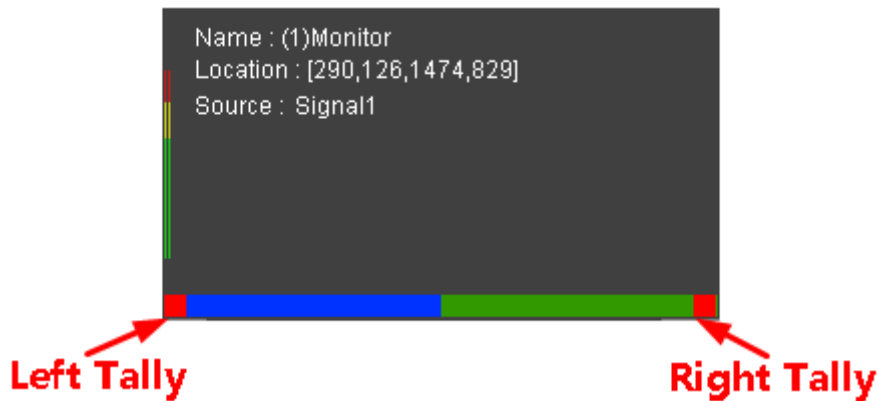

Figure 3.5-56 Tally
- **TALLY Setting:** set whether to display the left UMD and the right UMD, and set the color for its text and background. For example: choose the **Tally Display** item, and the tally indicators are as shown in **Figure 3.5-56**: